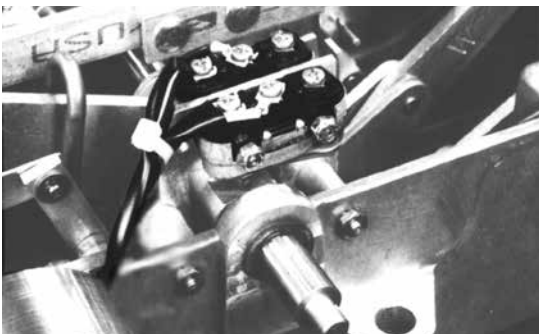

Figure 24. Microswitches SW1 and SW3 in place.
1. Attach the new SW1 and SW3 microswitch assembly (Item 2) to frame using screws (Item 11), larger, round spacers (Item 10), external tooth lockwashers (Item 13), and stop nuts (Item 12), (Figure 24). Do not tighten at this time.
Attach leads from cables switch SW1 and SW3 as described in the steps outlined below. On both switches, connect one lead to the end terminal marked common and one lead to the middle terminal marked open (Figure 24).